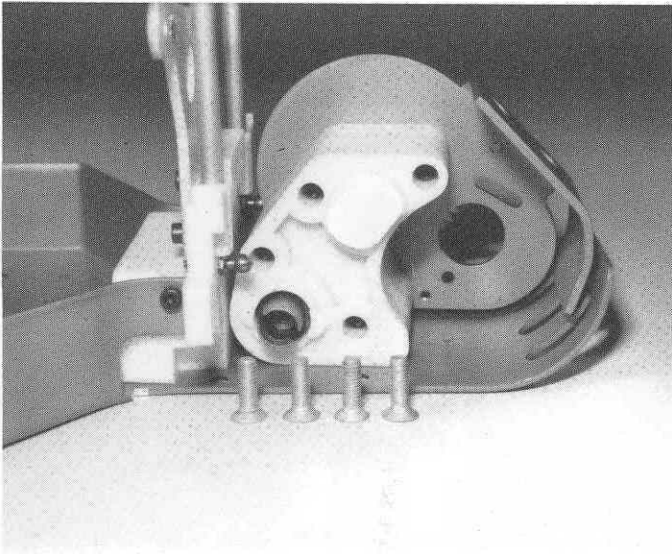

Fig. 102
□ **Fig. 102** Take the transmission housing and install it with 4 Phillips screws. Do not tighten the screws all the way yet. Be sure the motor mount plate is INSIDE of the chassis at the back, as shown.